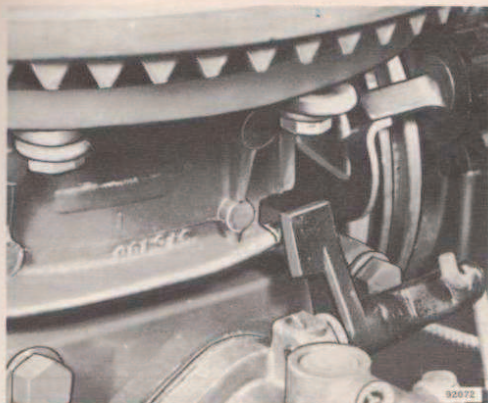

Figure 4-18. Throttle Control Cam and Follower
d. Place the armature plate in position over the crankshaft, using care to avoid damaging the breaker arms on the cam. Make sure that throttle cam follower is not caught under throttle control cam. See Figure 4-18. Tighten the four Phillips head screws. See Figure 4-6.